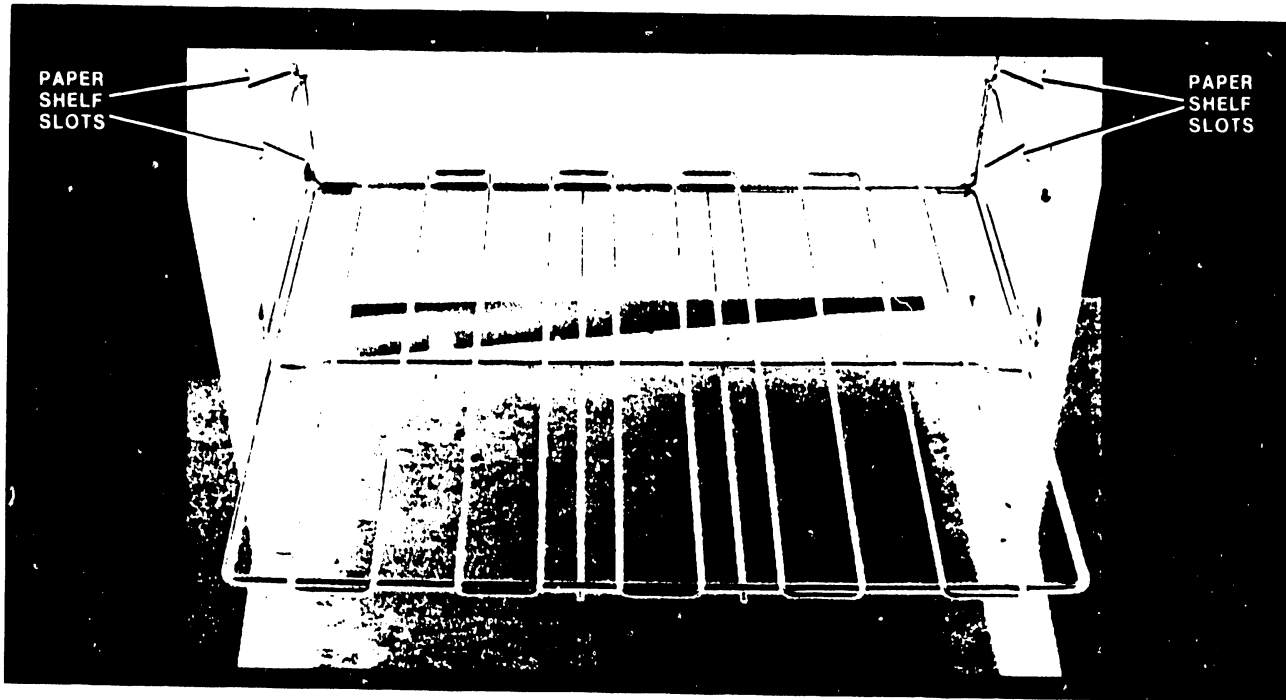

FIGURE 21
1. Remove the paper shelf and clean behind the four pedestal slots with a piece of emory cloth. Refer to figure 21.